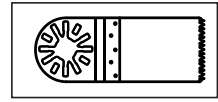

Fig. 1b
b) For “closed back” accessories (Fig. 1b), the blade screw and washer must be completely removed from the tool.